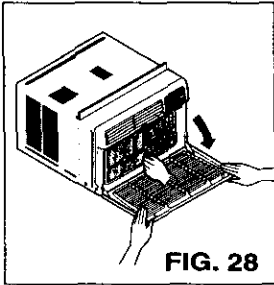

FIG. 28
- Pull the inlet grille forward, grasping both tabs, then pull out the air filter. (FIG. 28)